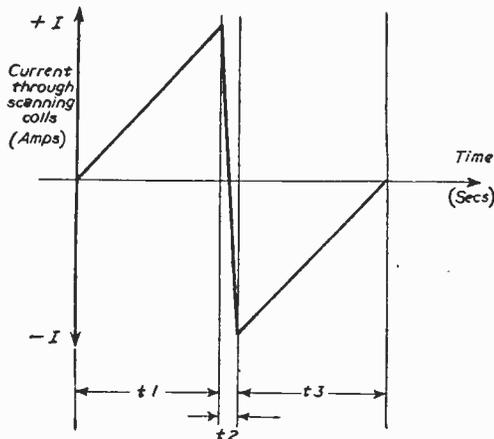

Fig. 31.—Variation of current through L with time.
L. represents the scanning coils and C the stray and self capacitance associated with these coils. The resistance of the coils is shown as r. Consider the sequence of events when the switch S is closed. Current I will flow through Lr and increase exponentially, at a rate governed by the L/r time-constant. As mentioned earlier, if the rise is only a small fraction of the maximum current $I_{max} = E/r$ then it can be considered as a linear increase of current with time. After a short interval t1 (see Fig. 31) the switch is opened and this current rise ceases, after reaching a maximum value +I amps (small compared with I max.). Energy has, however, been stored in the inductance L and causes current to flow out of L into the capacitance C during time t2. The direction of current through L has now been reversed and when it has reached a value of -I amps., then switch S is closed once more. The charge acquired by C during time t2 is now used to charge the battery E, whilst the current in L gradually reduces to zero during a time t3, again with a time-constant L/r.